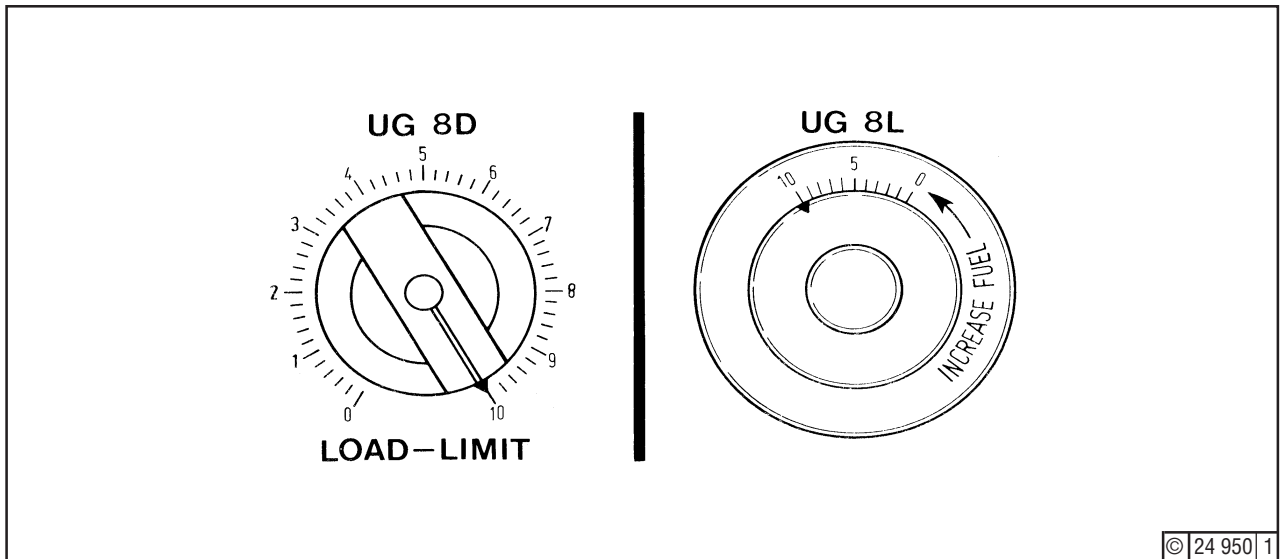
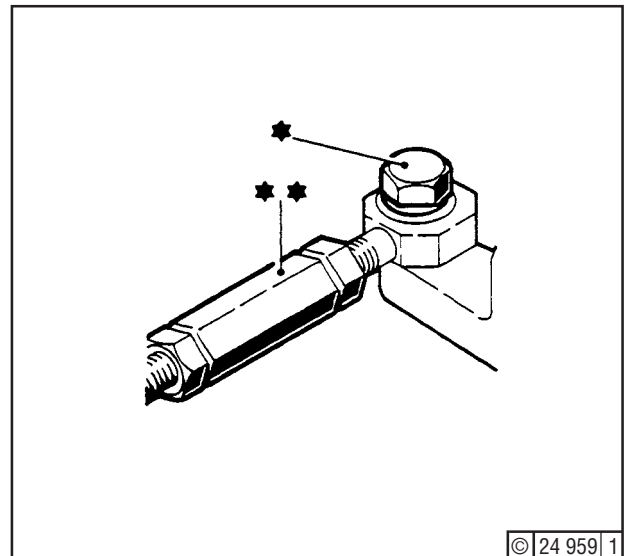

Fig. 15
Fig. 16
10. Turn governor to scale graduation 10 - Fig. 15 - and secure link C1(Fig. 16) to point A5 (*). Adjust length of link (** at point C5 to ensure freedom from internal stressing. Remove tool from all injection pumps (see Fig. 7).